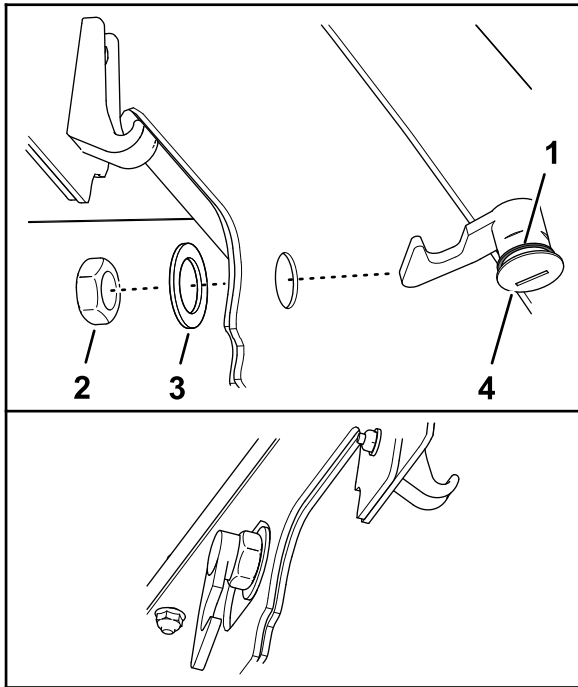

Figure 34
3. Ensure that the seal is assembled to the hood lock (Figure 34).